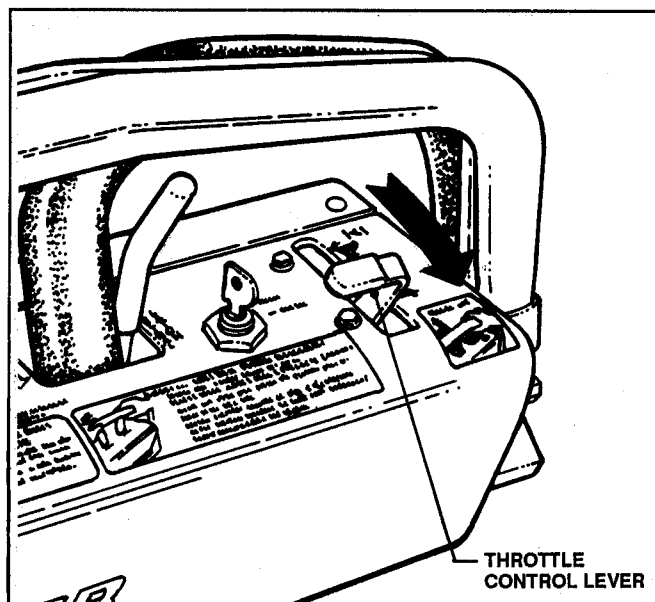

FIGURE 3
2. Move THROTTLE CONTROL LEVER to "STOP". See Figure 3.